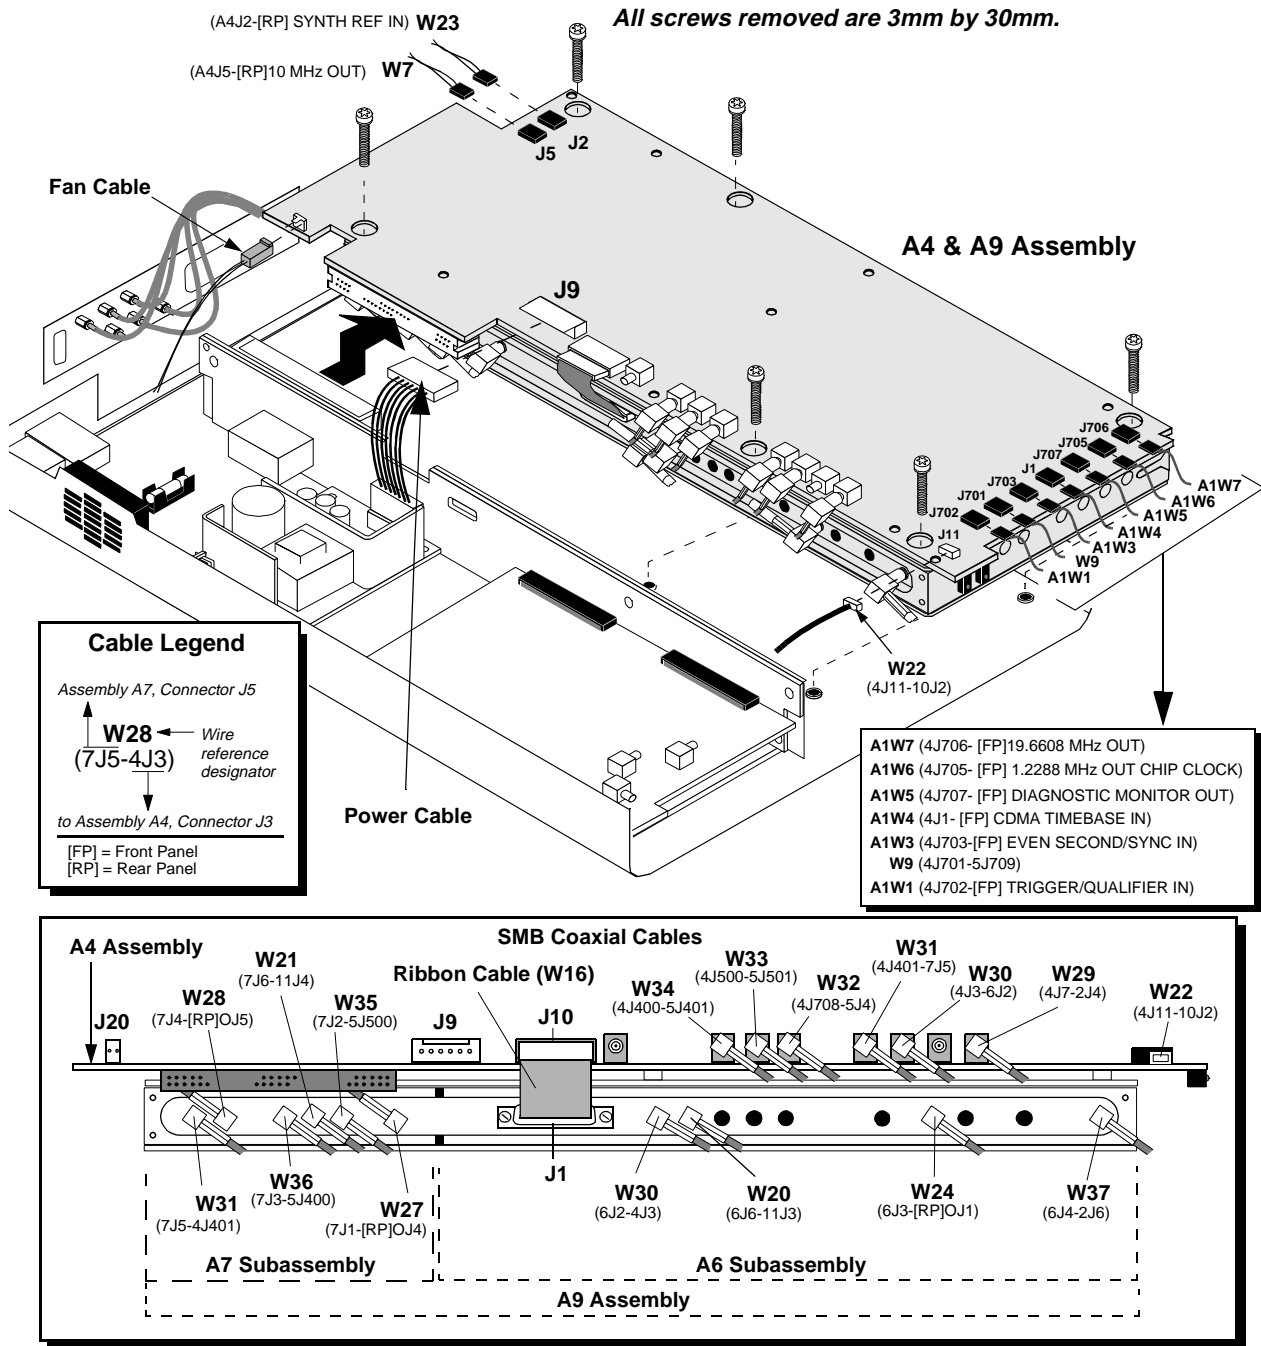

Figure 27 Removing the A4/A9 Assembly as a Unit
4. Remove the 6 screws that secure the A4 and A9 assemblies to the deck, see figure 27 on page 77.
5. Carefully pull the A4/A9 assembly away from the A3 motherboard and lift it over the edge of the deck to disconnect the cables and connectors shown in figure 27 on page 77.
1. Reconnect the SMB connectors to their proper assemblies. Use figure 27 on page 77 to help you determine the location of the cables and SMB coaxial connectors. The ends of the coaxial cables are identified with cable clips.
4. Reconnect all remaining cables and connectors to their proper assemblies as shown in figure 27 on page 77.